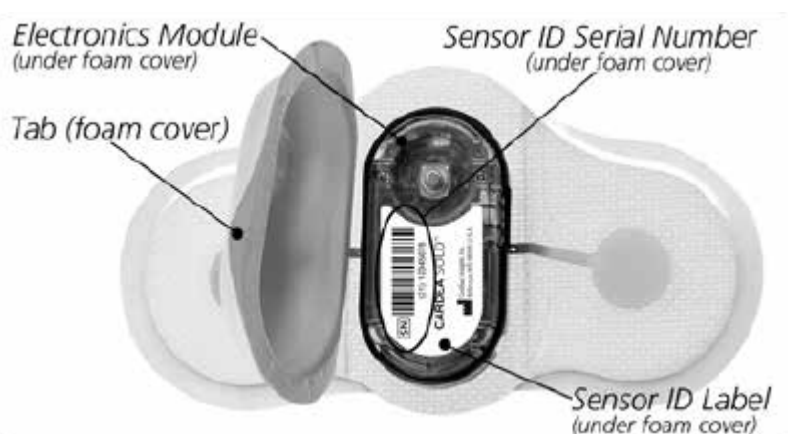

Figure 3.5. The exposed Electronics Module following removal of the foam cover. The barcode uses the GS1 standard format.
1. On the top surface of the Electronics Module is the Sensor ID label (see Figure 3.5 below). Use this information to associate or to confirm association of the Electronics Module with the patient chart. Copy the Sensor ID serial number (if not already there) onto the Patient Diary if a diary has been filled out by the patient.